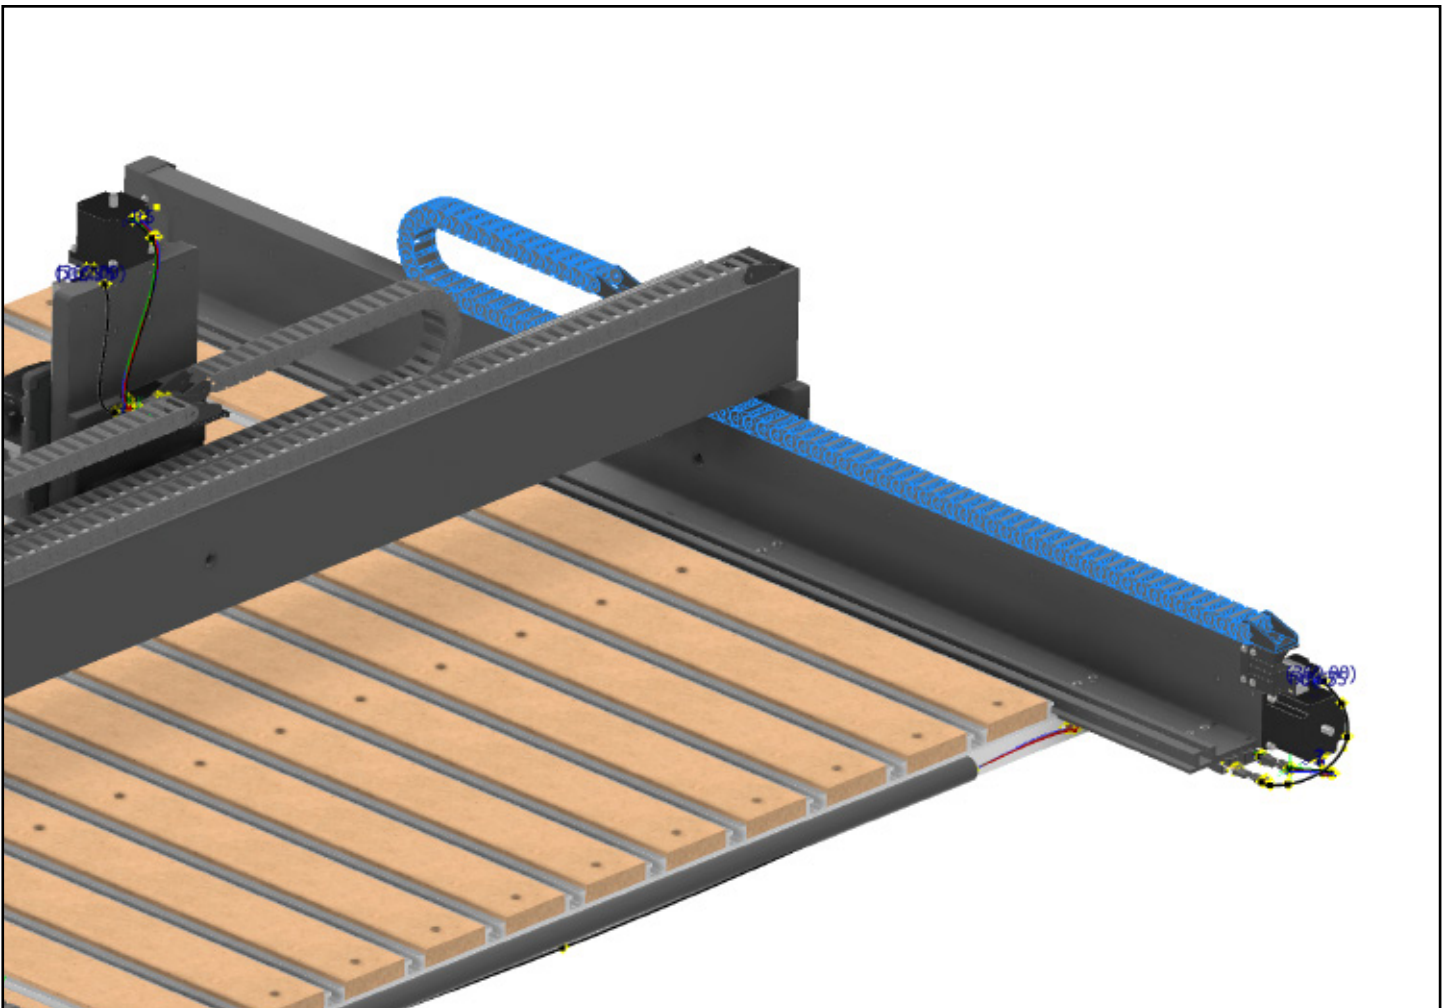

Figure 5-3
4. Lift the Y-Axis (shorter) drag chain and set it onto the Y-Left assembly (it slides under the gantry). See **Fig. 5-3**.
5. Use a 2.5mm hex key and two (2) M3×6mm SHCS to secure the X-Axis (longer) drag chain head to the bracket on the back of the HDZ. Fully tighten.
6. Use a 2.5mm hex key and two (2) M4×6mm BHCS to secure the X-Axis drag chain tail to the Y-Left end of the gantry. Fully tighten.
7. Use a 2.5mm hex key and two (2) M3×6mm SHCS to secure the Y-Axis (shorter) drag chain head to the Y-Left carriage. Fully tighten.
8. Use a 2.5mm hex key and two (2) M3×6mm SHCS to secure the Y-Axis drag chain tail to the Y-Left assembly. Fully tighten.